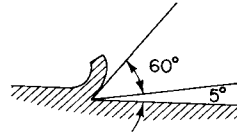

Fig. 4.56
1. In Fig. 4.56 state the tool angle, the clearance angle and the rake angle.